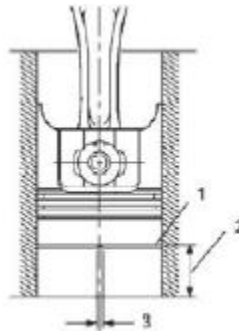

Figure 99.
9. To measure piston ring end gap, insert each compression piston ring (Figure 99, Item 1), one at a time, into the cylinder. Use a piston with the piston rings removed to slide the ring into the cylinder bore until it is approximately 1.18 in. (30 mm) (Figure 99, Item 2) from the bottom of the bore. Remove the piston. Measure the end gap (Figure 99, Item 3) of each piston ring. Record the measurements. See *Piston Ring Mechanical Specifications Chart*.